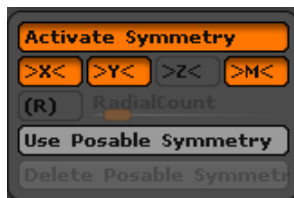

Figure 3-106 Symmetry activated along X and Y axes
6. Expand the **Transform** palette. In this palette, choose the **Activate Symmetry** button; the **>X<** button is chosen by default. Next, choose the **>Y<** button, refer to Figure 3-106.